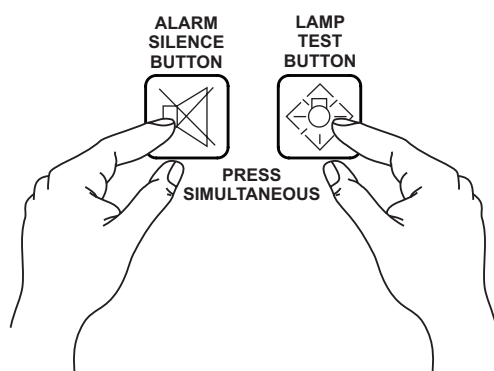

Figure 107. Alarm Silence/Lamp Test Buttons
1. Press and hold the **Alarm Silence** and **Lamp Test** buttons (Figure 107) at the same time for 10 seconds.